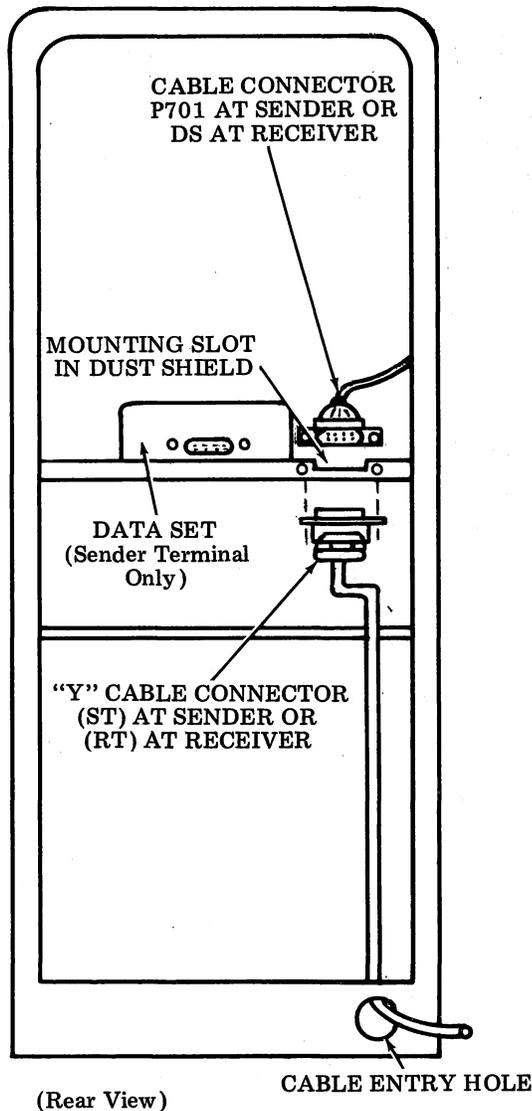

Figure 4 - Cable Routing Positions
3.07 Disconnect connector P701 from data set. Secure connector DS, of the TP199620 cable, to data set. Mount connector ST, of the TP199620 cable, into slot on dust shield (Figure 4) and secure with attached lock-nuts. Plug connector P701 into connector ST.
3.13 Remove ac power cord from cable entry hole at bottom of cabinet (Figure 4). Push connector RT, of the TP199620 cable, into cabinet through the hole. It may be necessary to remove the cable clamp from connector (RT), to get connector through the hole. Now push ac power cord out the hole.
3.19 Mount connector ST, of TP199620 cable, into slot on dust shield (Figure 4) and secure with attached locknuts. Plug connector DS into connector ST, then follow instructions in 3.08.